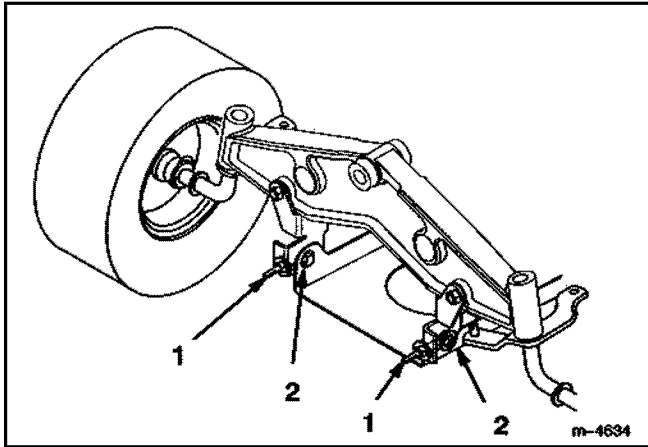

Figure 44 XL38pit2.TIF
4. To adjust the front-to-rear pitch, loosen the front pivot plate mounting bolts slightly (Figure 44).